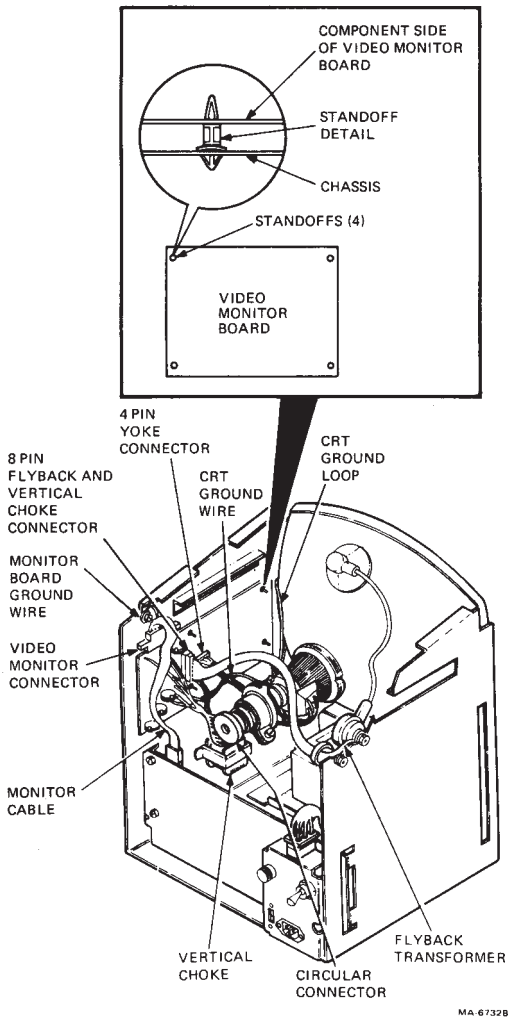

Figure 2-14 Video Monitor Board Connections
Refer to Figure 2-14 for the following steps.
8. Release the four standoffs by pressing in the stand-off locking tabs and pulling the board out. (See Figure 2-14 insert.)
2. Disconnect the 8-pin flyback transformer and vertical choke connector from the video monitor board (Figure 2-14).
This procedure exposes you to the CRT anode which may contain a stored high voltage. All grounds must be intact or the CRT will not discharge (Figure 2-14). These grounds are
6. Remove the two nuts holding the flyback transformer to the monitor chassis (Figure 2-14). Carefully remove the flyback transformer with the nylon insulation washers.